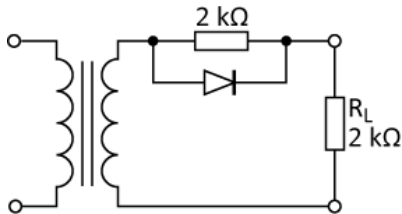

Fig E4-1
1. In the circuit of Fig E4-1, the transformer produces a peak secondary voltage of 20 V. Sketch the waveform appearing across the load R_L indicating all values on each cycle. Assume the diodes are ideal.